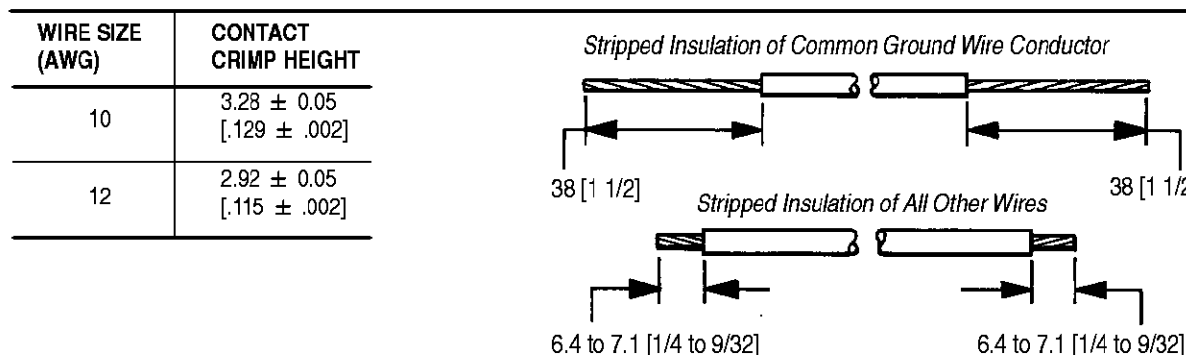

Figure 2
- Added wire size 12 to Figure 2 and changed hose sizes in paragraph 3.3.B
The crimping barrels of each contact are designed to receive **stranded** AWG copper wire. Refer to Figure 2 for wire specifications and strip lengths.
The wires must be stripped to the dimension shown in Figure 2. Care must be exercised to prevent cutting or nicking of the wire strands. Care must also be used when handling wire during crimping to prevent cracking or breaking of the wire strands and wire insulation.